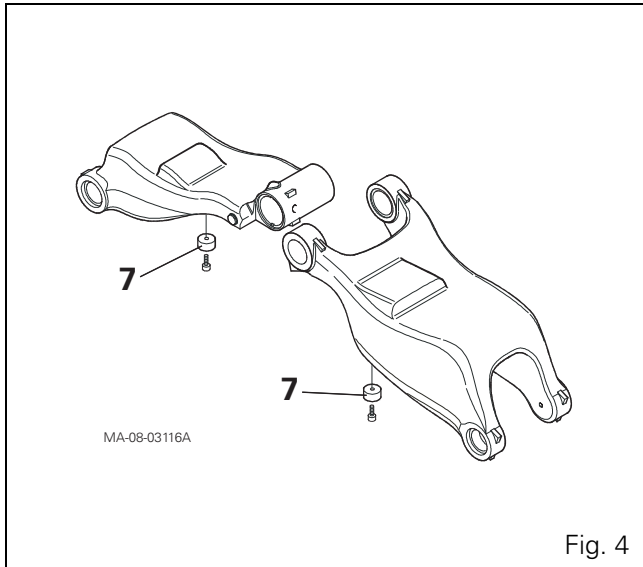

Fig. 4
4. Remove the upper arms with a suitable lifting tool. Retain the seals and shims if present. Replace the shock absorber pads (7) if necessary by removing the corresponding screws (Fig. 4).